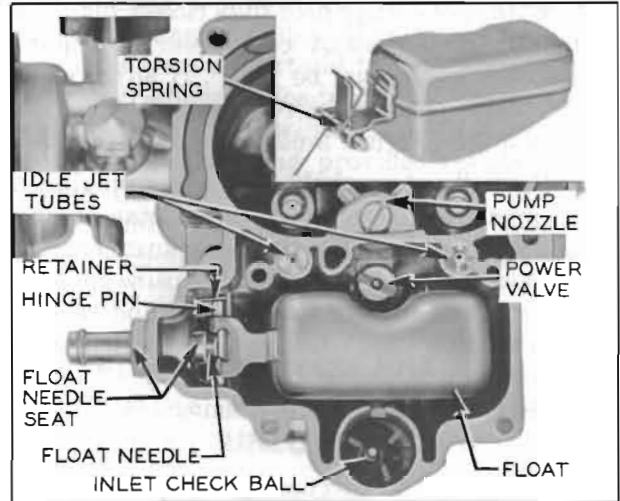

Figure 3-70—Main Body Parts
8. Remove float needle seat and connector fitting together with gasket and float needle. Remove float retainer. To aid when reinstalling torsion spring, note position of spring on hinge pin before lifting float from float bowl. Remove float, hinge pin, and torsion spring. See figure 3-70.
8. Install float and hinge pin with torsion spring in proper position. See figure 3-70. Install float retainer clip using needle-nose pliers.
10. Install idle jet tubes. Install accelerator pump check balls (use new balls if available); place large ball in plunger well and place small ball in discharge well. Install lower pump spring in plunger well. Install pump discharge nozzle and screw using new washer and gasket. See figure 3-70.